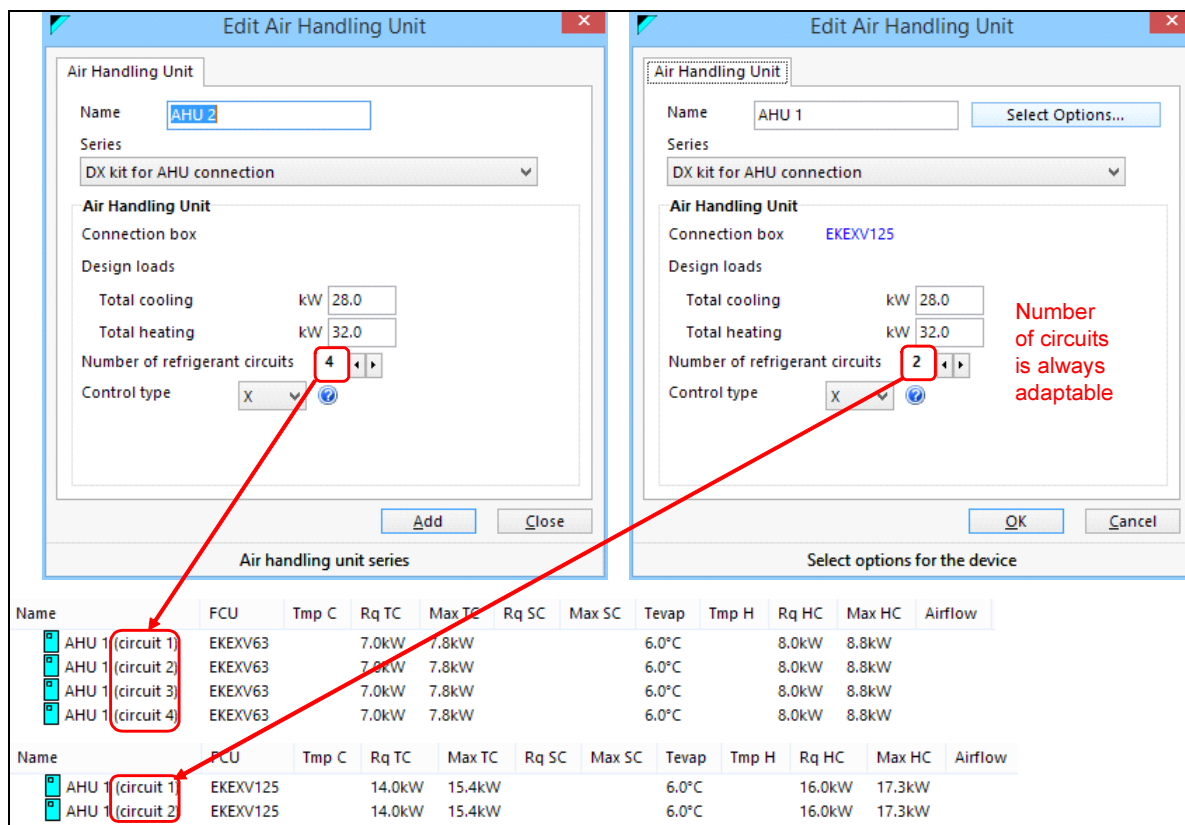

Figure 108: Defining a pair multi configuration
The next example consists of a number of circuits connected to a single air handling coil, which is a pair multi configuration, as shown in Figure 108:
- In Figure 108 at the left, the number of circuits is 4. So, VRV\_Xpress divides the required capacities (28kW cooling and 32kW heating) by 4 to dimension the EKEXV devices. This results in four EKEXV63 models.
- In Figure 108 at the right, the number of circuits has been lowered to 2, resulting in larger EKEXV125 models to cover the same capacities, now using 2 circuits.